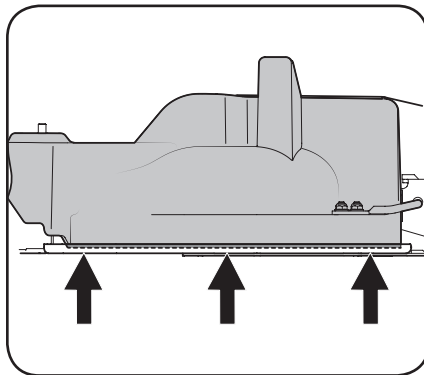

Figure 1-5
**IMPORTANT:** Be certain that the bottom of the mulch plug is installed down inside of the lip of the deck opening, as shown in Figure 1-5.